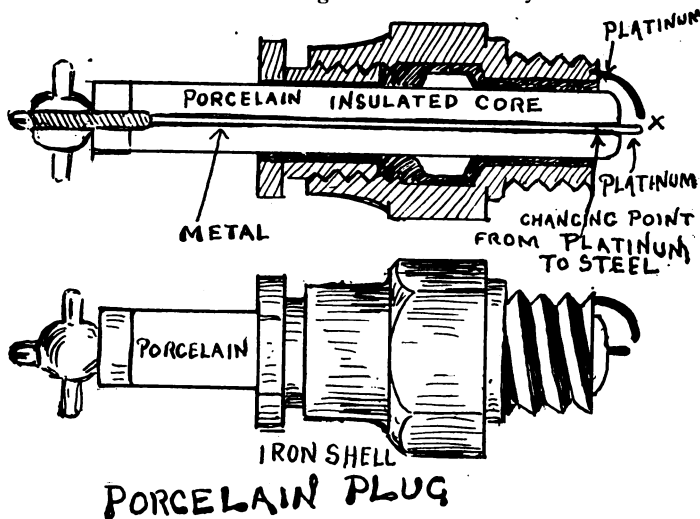

Figure 24.
**SPARK PLUGS.**—Referring to spark plugs, in figure 24, we show a sectional view, metal shell threaded, so as to screw closely into the combustion chamber of the motor, and having a flange, turned true with the thread on the shell. Through the porcelain plug passes a wire headed at one end, and threaded at the other end to fit some suitable nut. P is platinum point—one wire from the secondary coil is connected to the nut on porcelain, the other wire from the secondary work-